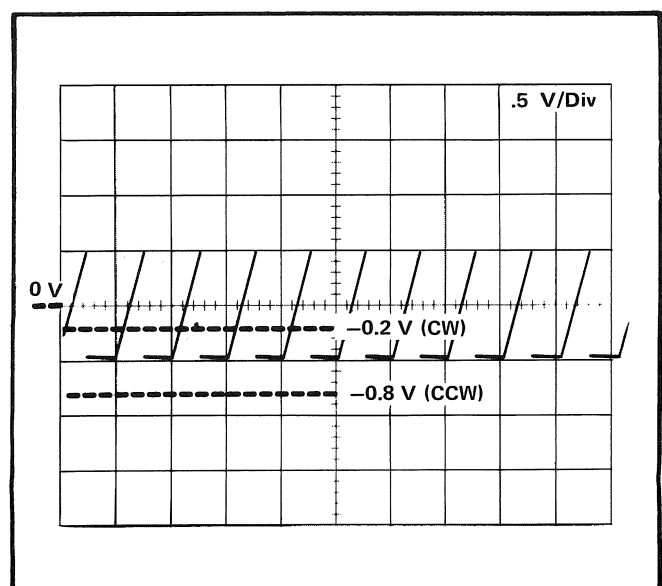

Fig. 5-4. Checking the range of the RAMP POSITION control.
n. Set the oscilloscope Trigger Slope to (-) and adjust for a stable display (see Fig. 5-4).